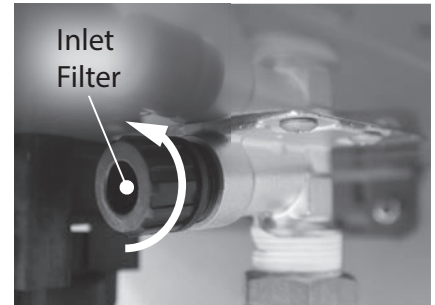

Figure 208 - Removing the inlet filter
- 8 Locate and remove the inlet filter as shown in Figure 208 to drain any residual water left in the system. Place a bucket or pan underneath inlet filter to collect water during removal.